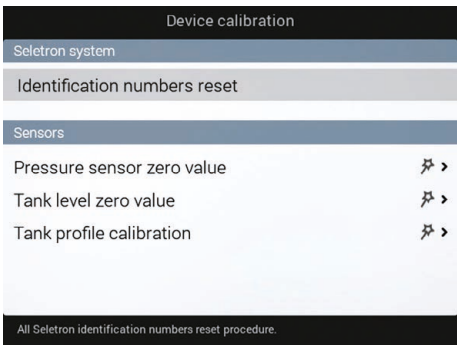

Fig. 138
- Select item **Identification numbers reset** (Fig. 138) and press **OK**.